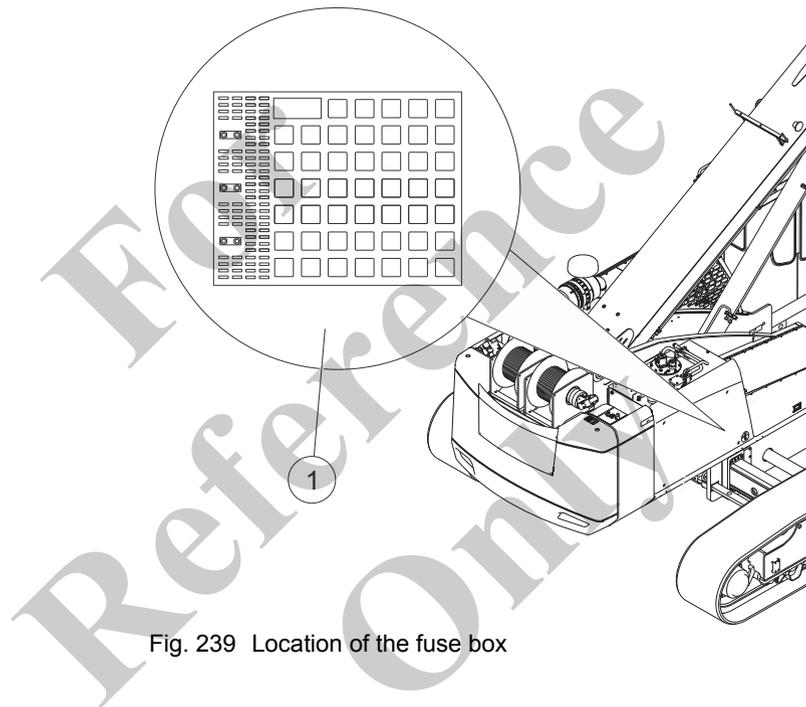

Fig. 239 Location of the fuse box
3	Replace the defective fuse (1) in Fig. 239.